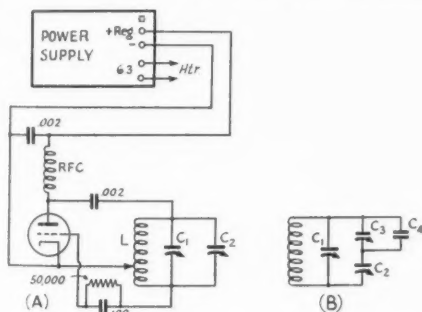

Fig. 8
**Apparatus:** The circuit for this experiment is shown in Fig. 8. The plate power supply, tube board and circuit board are used. A small triode is connected as a Hartley oscillator, using a coil  $L$  from the circuit board. A 6J5 or similar small triode will be suitable. The grid leak is 50,000 ohms and the grid condenser 100  $\mu$ fd. The oscillator is shunt fed through the 2.5-mh. r.f. choke, RFC, with blocking and by-pass condensers of 0.002  $\mu$ fd. each. The oscillator plate voltage can be obtained from the regulated tap on the power supply, using a VR-105-30 regulator tube. However, voltage regulation is not essential, and it will suffice to set the output voltage from this or another supply at about 100 volts, using the ordinary voltage divider.
To simulate the mixer or signal-frequency circuit the oscillator is first connected as shown at A in Fig. 8.  $C_2$  is the tuning condenser and  $C_1$  is a parallel padding condenser. Connect the two condensers and the tube across 30 turns of the coil, as shown in the diagram. Set the cathode tap 10 turns from the grid end of the coil.
plate circuit lead from the tube, should all be moved down to the next tap. It will not be necessary to change the cathode tap. Set  $C_2$  at minimum capacity, set the receiver to 4.5 megacycles, and adjust  $C_1$  until the signal is heard at zero beat in the receiver. The difference between 4.5 and 4 megacycles, or 500 kilocycles, represents the intermediate frequency in this experiment. Now connect  $C_3$  in series with  $C_2$  as shown at B in Fig. 8 and connect the 500- $\mu$ fd. fixed condenser,  $C_4$ , across  $C_3$ .